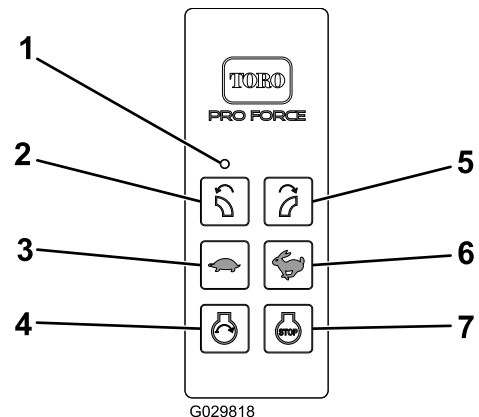

Figure 15
3. Engine Start will only become energized by pressing the Start button while the Engine Start Enable Condition is active. The Engine Start Enable Condition becomes active only when the following Engine Start Enable Sequence has been performed (Figure 15):